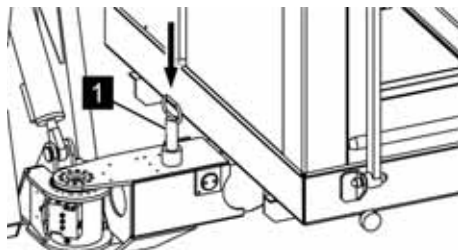

*Fig. 85: Removing the working basket*
6. ➔ Lift the working basket (Fig. 85/1) slightly and pull it out of the bracket (Fig. 85/2).